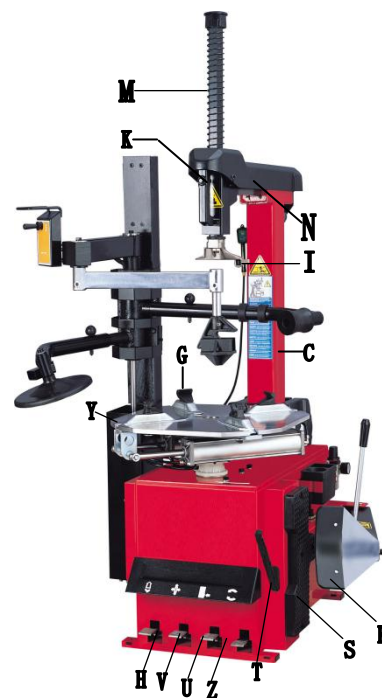

Fig 4
- 1) Unscrew the left cover, fix air tank with machine body by bolt(1) and nut(2)
- 2) Fix metal pipe (4) with connector (3), make sure there is no air leakage, shown as Fig 4.
Please note: below operation refer to **Fig 4**